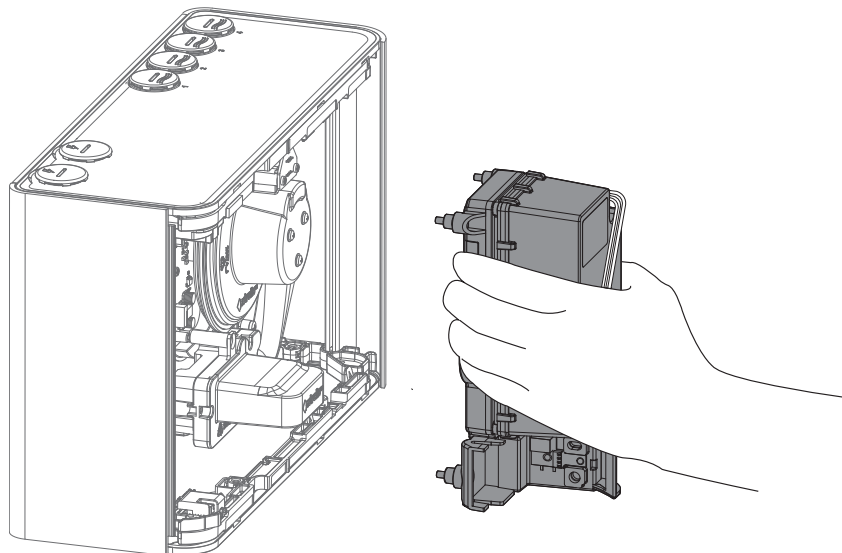

Figure 7-15: Install the Chamber
3. Re-install the chamber as shown in Figure 7-15. Be careful to hold looms (A) and (B) in the position shown so that the looms are not caught between the chamber and other parts of the detector.